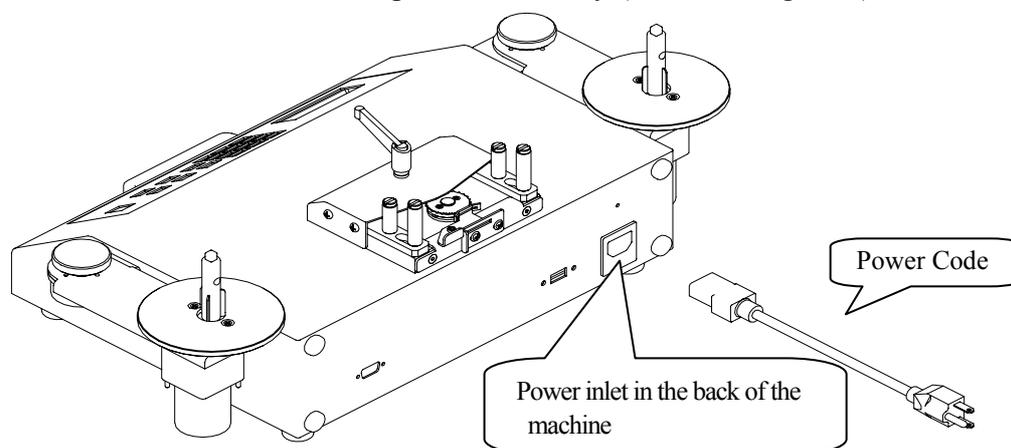

Figure 1
5. After confirmation of the accessories and voltage specification, connect each side of the power cord respectively to outlet of the machine and outlet of the power in the city (Shown as figure 1).